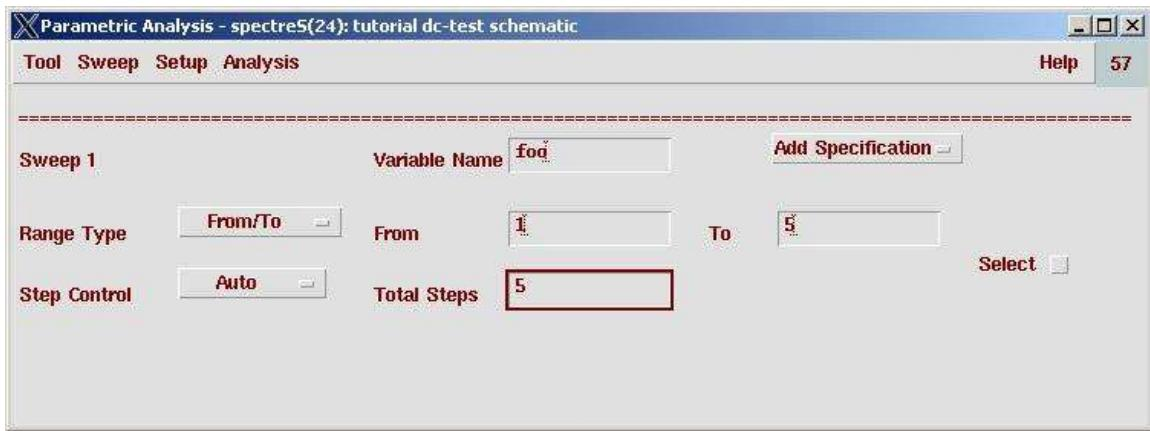

Figure 6.33: Dialog to set variable parameters for parametric simulation
6. In this window enter **foo** in the **Variable Name** slot, and range the value of the variable from 1 to 5 with 5 total steps. The dialog box looks like that in Figure 6.33.